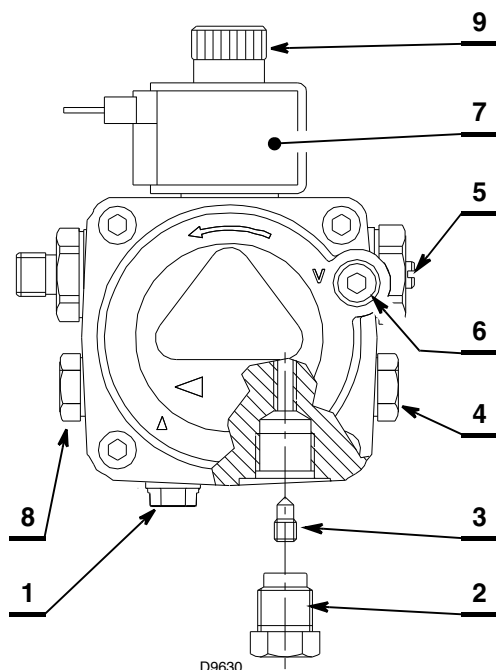

Fig. 9
- The pump (Fig. 9) is designed to allow working with two pipes.
It is sufficient to loosen the vacuum connection 6) (Fig. 9) and wait until oil flows out.